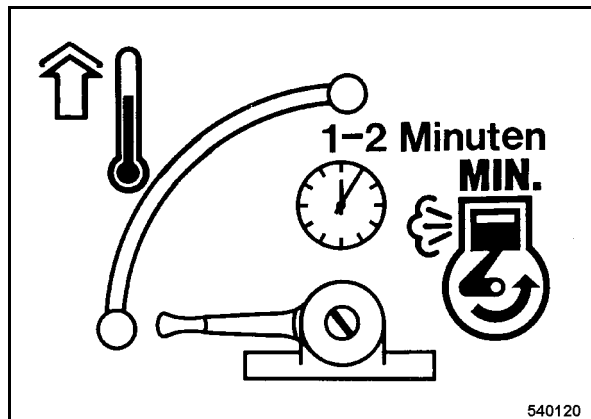

Fig. 17
- Set the throttle lever (Fig. 17) to position "MIN" and let the engine run warm for 1 to 2 minutes.